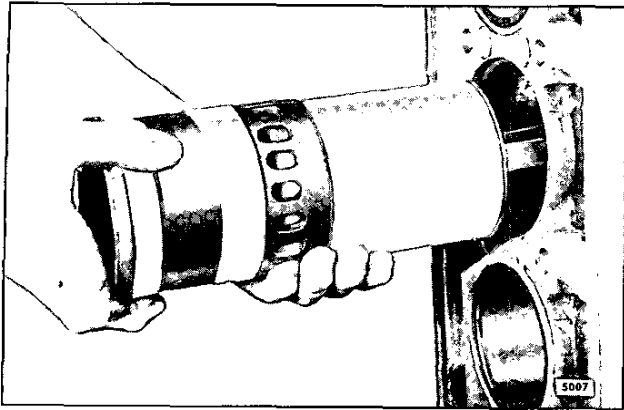

Fig. 10 - Installing Piston, Rod and Liner Assembly in Cylinder Block
6. Position the piston, rod and liner assembly in line with the block bore (Fig. 10) so that the identification number on the rod is facing the outer edge of the block (V-type engine) or the engine serial number side (In-line engine). Also, align the matchmarks on the liner and the block. Then, slide the entire assembly into the block bore being careful not to damage the seal rings.